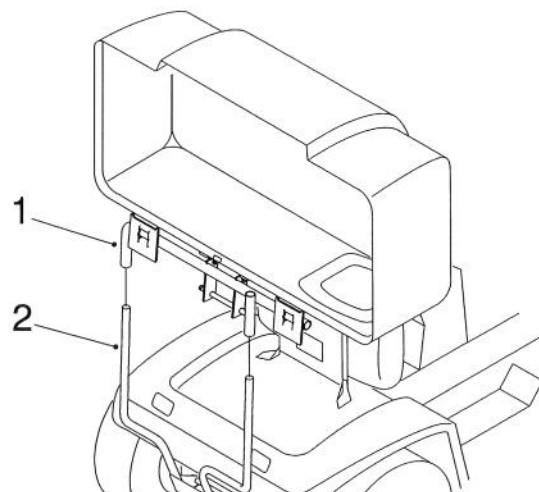

Figure 21
3. Tilt the rider seat forward. Slide the bagger top on to the quick-attach bracket (Fig. 21).